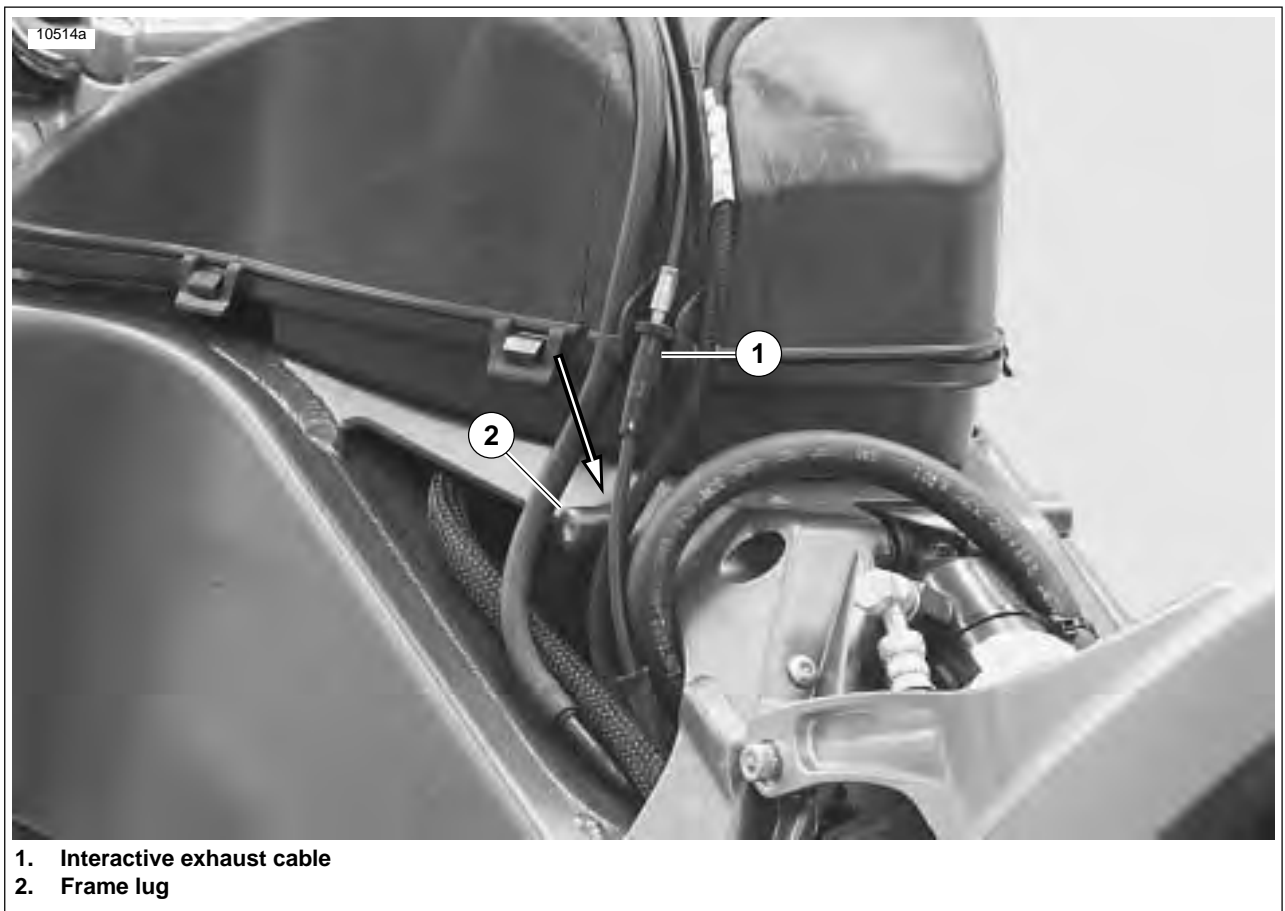

Figure 1-46. Correct Cable Routing Behind Frame Lug
11. See Figure 1-46. Verify that the interactive exhaust cable (1) is routed behind the frame lug (2) before installing air intake cover.